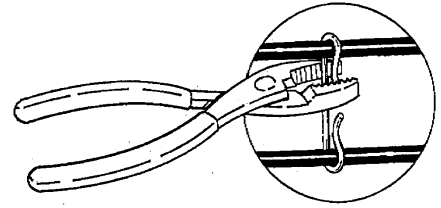

Figure 18. Apriete los espaciadores con alicates
• **Figure 18. Squeezing spacers with pliers**
• **While the cable is being laid in the gutter, the spacers can be tightened with fingers or pliers.** If you use pliers, squeeze gently and use care to avoid pinching, crimping, cutting into or otherwise damaging the cable (see Figure 18). Do not use a hammer to tighten the clips and spacers.
Once you know the length of cable needed, the next step is to install spacers and feed the cable into the downspout. Spacers must be attached to the cable every 6 inches so that the cable does not touch itself in the downspout. You must tighten the spacers before the cable is installed in the downspout. You may do this with your fingers or pliers. If you use pliers, squeeze gently and use care to avoid pinching, crimping, cutting into or otherwise damaging the cable (see Figure 18). Do not hammer to tighten the clips and spacers. Pull the cable into the downspout using a weighted string.
Tighten clips and cable spacers. Tighten clips and spacers on the roof. You may do this with your fingers or with pliers. If you use pliers, squeeze gently and use care to avoid pinching, crimping, cutting into, or otherwise damaging the cable (see Figure 18). Do not use a hammer to tighten the clips and spacers.